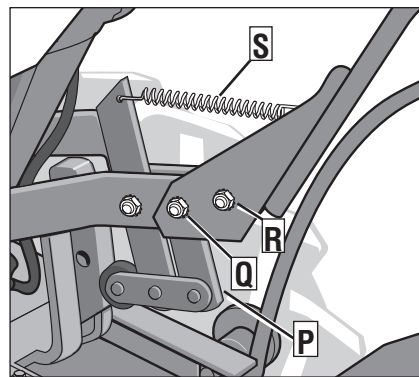
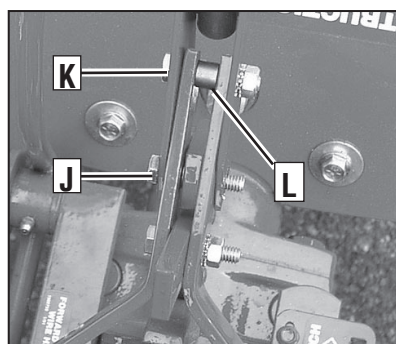
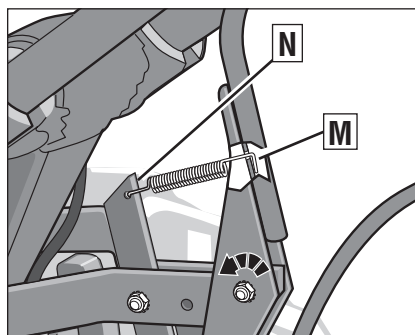

Figure 2-9: Fully assembled Wheels/Tines/PTO Lever assembly.
Figure 2-7: Drive Lever assembly.
Figure 2-8: Clutch pawl spring. Tilt Wheels/Tines/PTO Lever fully forward before installing spring.
3. Slide the plates at the end of the Wheels/Tines/PTO Lever over the yoke plates (Figure 2-9). To aid in the next step, insert a screw temporarily into the forward most holes (J, Figure 2-7) of the yoke plates and the lever.
5. Retrieve the clutch pawl spring (Figure 2-8) from hardware bag.
Remove the temporary screw (J, Figure 2-7) from the forward holes and move the Wheels/Tines/PTO Lever fully forward. Install the wider hook end of the clutch pawl spring (M, Figure 2-8) down into the small hole at the end of the handle. Use pliers to insert the other end into the hole in the long link bar (N).
6. Pull the Wheels/Tines/PTO Lever back to align the forward most holes (Q, Figure 2-9) in the yoke plate with the holes in the lever plates. Also align the bushing that is inside the short link bar (P). Install the screw, star washer, and nut, then tighten securely.
Securely tighten all other hardware (Q, R, Figure 2-9). Also ensure that the spring (S) is properly seated at both ends. Completed assembly should appear as illustrated in Figure 2-9.